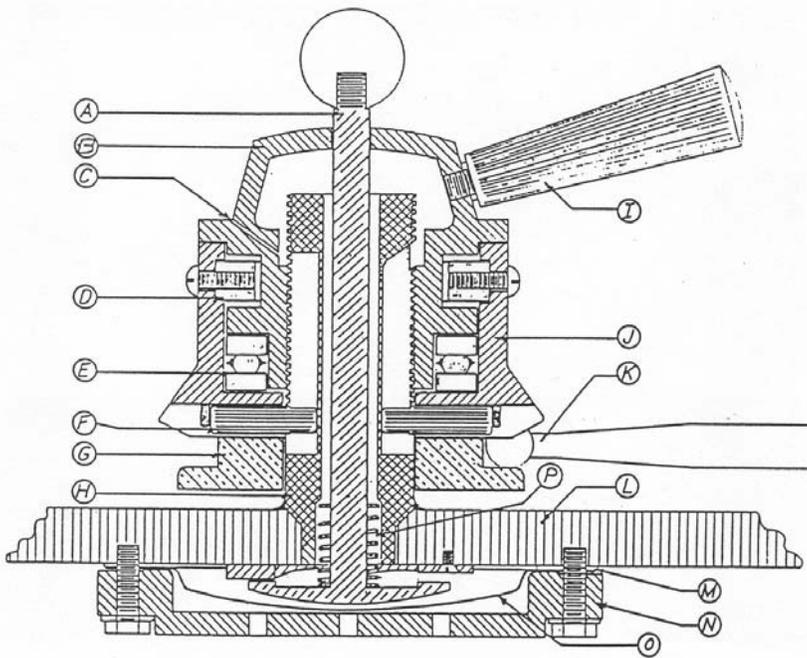

Figure 6.1
The nomenclature for the door hub assembly shown in figure 6.1 is as below:
2. Spin the door handles less than a turn so that the oil hole, “C” in figure 6.1 is facing the top.